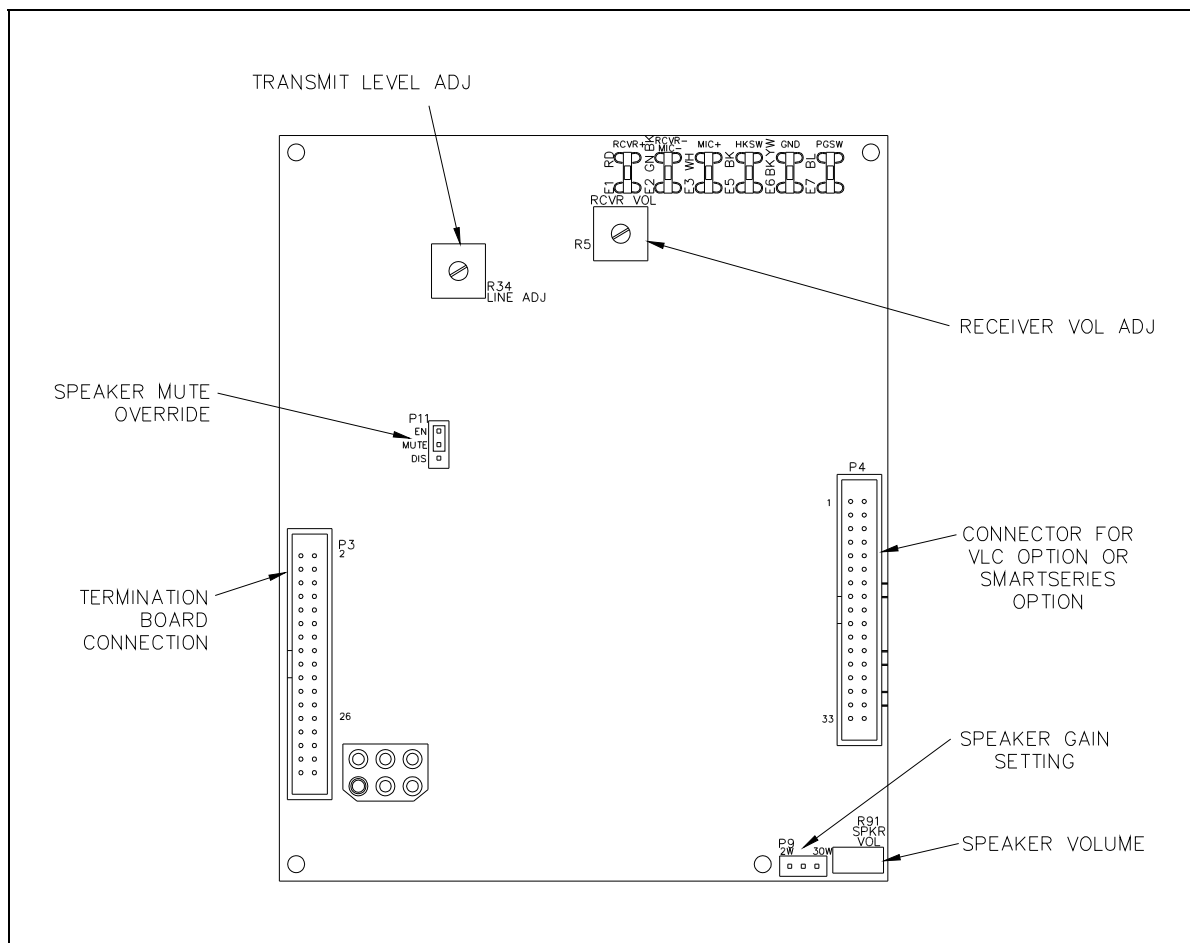

Figure 6. No. 69557 Series Main PCBA
The station can mute the speaker amplifier during page operation to eliminate feedback. Adjust jumper P11, if necessary, to mute the local speaker when paging from that station (see Figure 6).
P9 sets the maximum speaker output level (see Figure 6).
Use the transmit-level potentiometer, R34, to adjust the signal level from the handset to the page or party lines (see Figure 6).
Use the receiver volume potentiometer, R5, to adjust the signal level to the handset receiver from the page or party lines (see Figure 6).
Use the speaker volume potentiometer, R91, to adjust the signal level to the speaker from the page line (see Figure 6). The default setting is 4 watts for an 8-ohm speaker and 2 watts for a 16-ohm speaker.
1. Turn the speaker volume potentiometer, R91, (on the main PCBA) fully counterclockwise (see Figure 6).
3. Adjust the speaker volume potentiometer, R91, to the desired output (see Figure 6).
3. Adjust the speaker volume potentiometer, R91, to the desired output (see Figure 6)